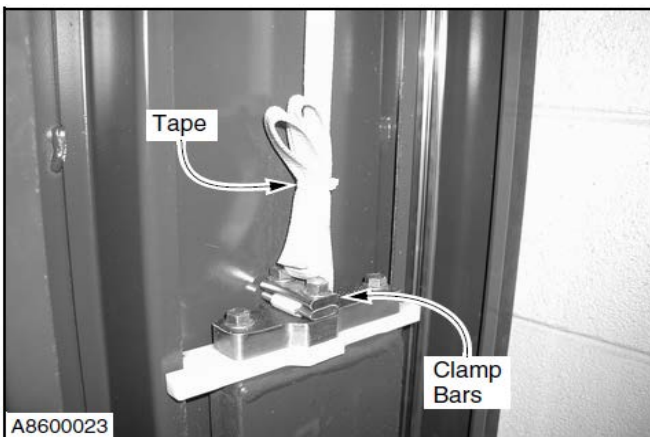

Figure 41
7. Remove the tape wrapped around the loose end of the strap. (See Figure 41.)